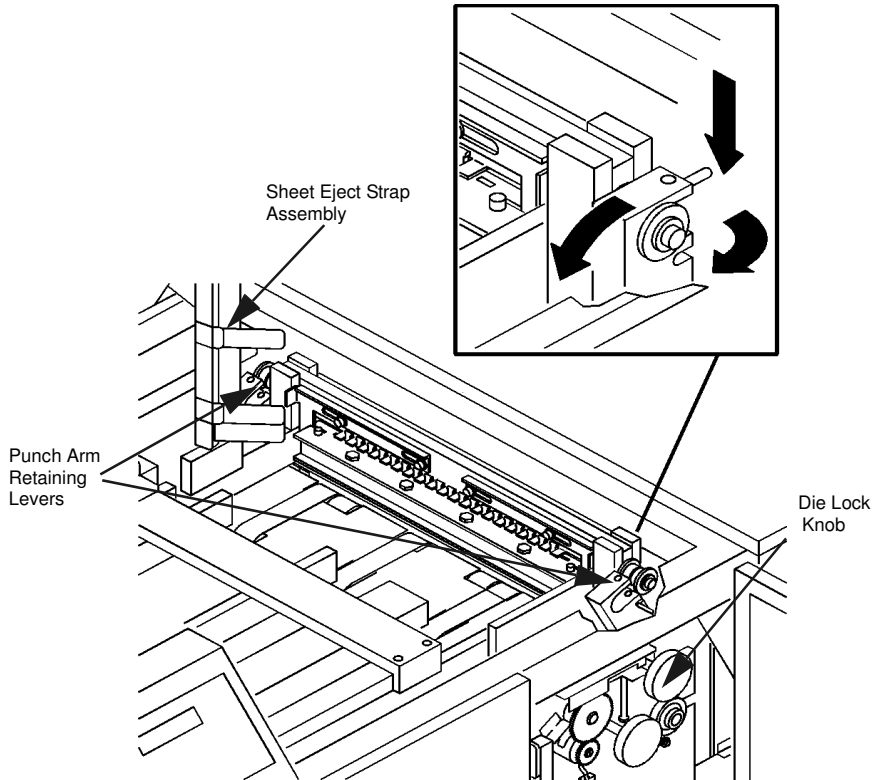

Figure 2-2: Unlocking the Die Assembly
- 3 Open the Sheet Eject Strap assembly, as shown in Figure 2-2.
- 4 Release the Punch Arm retaining levers down and to the side, as shown in Figure 2-2.
- 5 Unlock the Die: turn the Die Lock knob clockwise until a "click" is felt, as shown in Figure 2-2. Do not turn past that point or you will lock the Die again.